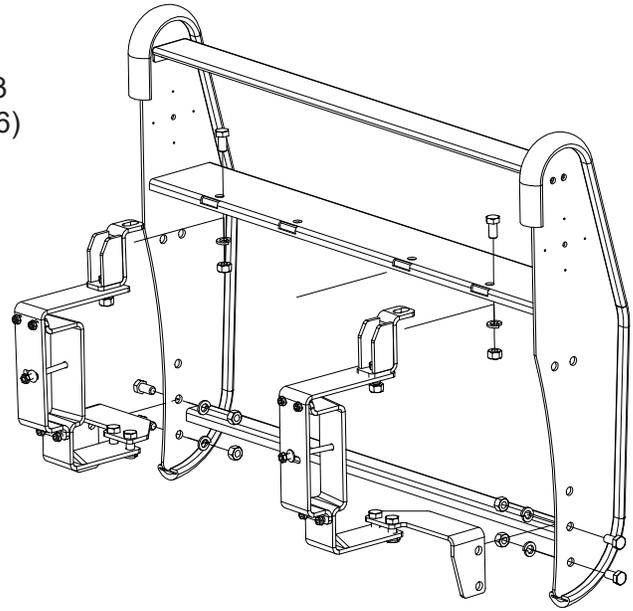

Figure 4.
C. Lift the universal push bumper (4PBT1110) into place aligning the two lower holes of the push bumper with the holes located in brackets 3PBK4714-05/06. Secure the brackets to the push bumper with the provided 1/2-13 bolts, lock washers, and nuts. (3x174, 3x175 & 3x176) See figure 4.